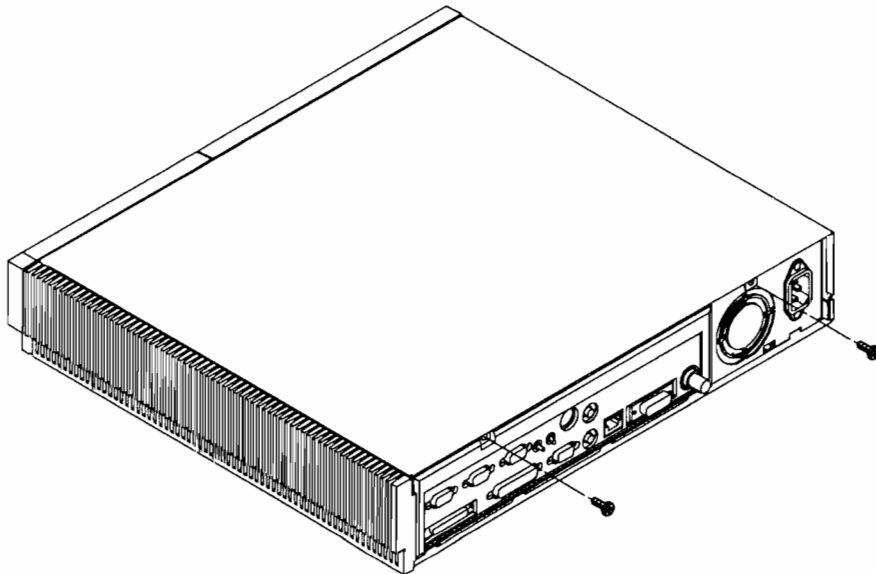

Figure B-1. Removing the Top Cover Screws
1. Remove the two #2 Pozidrive screws holding the top cover to the back panel (as shown in Figure B-1).